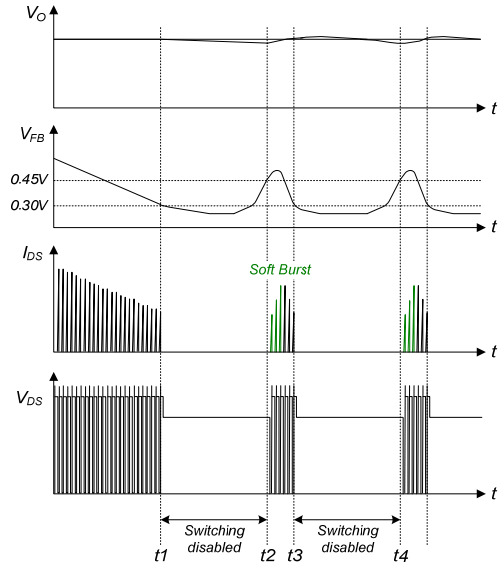

Figure 23. Burst-Mode Operation
5. Soft Burst-Mode Operation: To minimize power dissipation in Standby Mode, the FSD176MRT enters Burst-Mode operation. As the load decreases, the feedback voltage decreases. The device automatically enters Burst Mode when the feedback voltage drops below V_{BURL} (300mV), as shown in Figure 23. At this point, switching stops and the output voltages start to drop at a rate dependent on standby current load. This causes the feedback voltage to rise. Once it passes V_{BURH} (450mV), switching resumes. The feedback voltage then falls and the process repeats. Burst Mode alternately enables and disables switching of the SenseFET, reducing switching loss in Standby Mode.